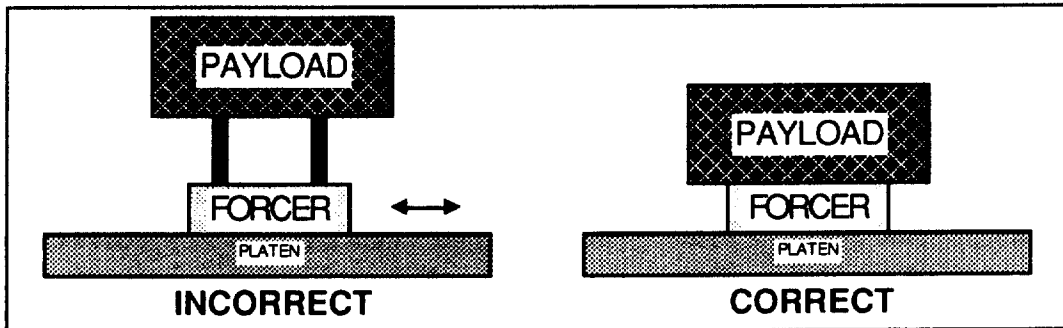

Figure 3-9. Proper Payload Mounting
- Redesign the payload to bring the payload center of gravity closer to the platen surface (see Figure 3-9).
- Mount the payload on some sort of linear slide (e.g., Thompson rail) and use the forcer merely to push the payload back and forth on the linear slide. *When coupling the load to the forcer in this situation, you must allow some flexibility to compensate for the fact that the platen and the linear slide are not exactly parallel.* For more information, contact a Compumotor Applications Engineer at (800) 358-9070.
You must take special care when mounting a payload to a forcer, particularly the L9A and L20 forcer. **The area of the payload in contact with the forcer should be flat** (see Figure 3-9). A *non-flat* payload, when torqued down, can warp the forcer and cause the forcer to stall. If the payload covers the forcer opening, you can remove the forcer cover before attaching the payload.